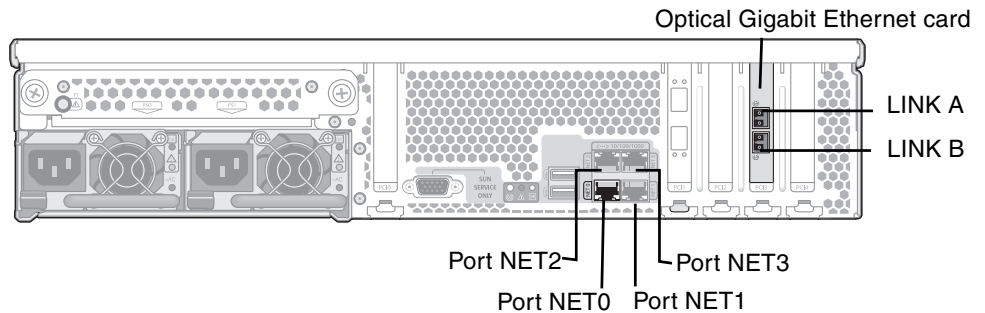

FIGURE 5-28 Dual Server HA NIC Ports
The dual-server Sun StorageTek 5320 NAS Cluster Gateway System is commonly configured with four on-board copper gigabit ports and two dual-port Gigabit Ethernet cards (FIGURE 5-28).
- Connect a Cat5 (for a 100BASE-T network) or Cat5e (for a 1000BASE-T network) Ethernet cable from your LAN to the NIC NET1, NET2, or NET3 port on the back of each of the servers (see FIGURE 5-28 for NIC port locations).
- Connect an optical network cable from the network to the top (LINK A) and connect another optical network cable from the network to the bottom (LINK B) optical Gigabit Ethernet connector on the back of each of the servers (see FIGURE 5-28 for NIC and optical Gigabit Ethernet port locations).